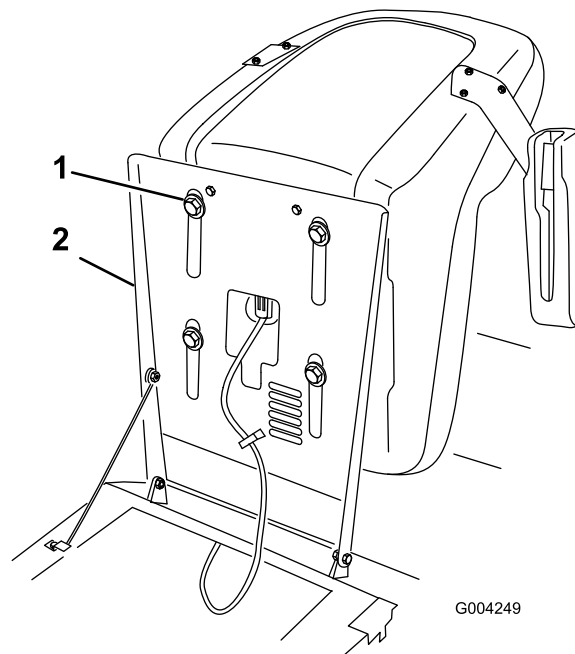

Figure 18
1. Raise the seat and loosen the adjustment bolts (Figure 18).